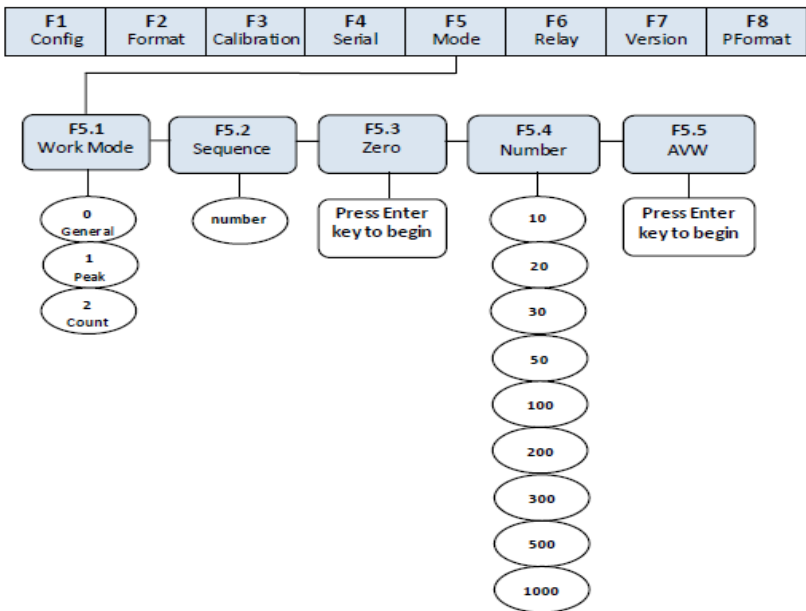

Fig. 11.1 Count Items Average Weight Setup Menu
- (1) Turn on the SW2 switch to set indicator to the Configuration mode (display shows "F1").
- (2) Press  until display shows "F5" (see Fig 11.1). Press  and the display will show "F5.1". Press  then press  until F5.1 = 2. Next press  to save the value. Once the value is saved, "F5.2" is displayed.